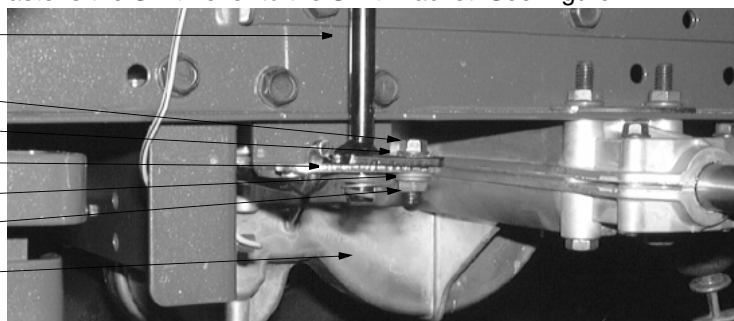

Figure 2
4. Secure the Self Tapping Screw installed in Step 3 firmly in place by fastening it to the Shift Bracket with the Flat Washer and Flange Lock Nut included in this kit as shown in Figure 2.